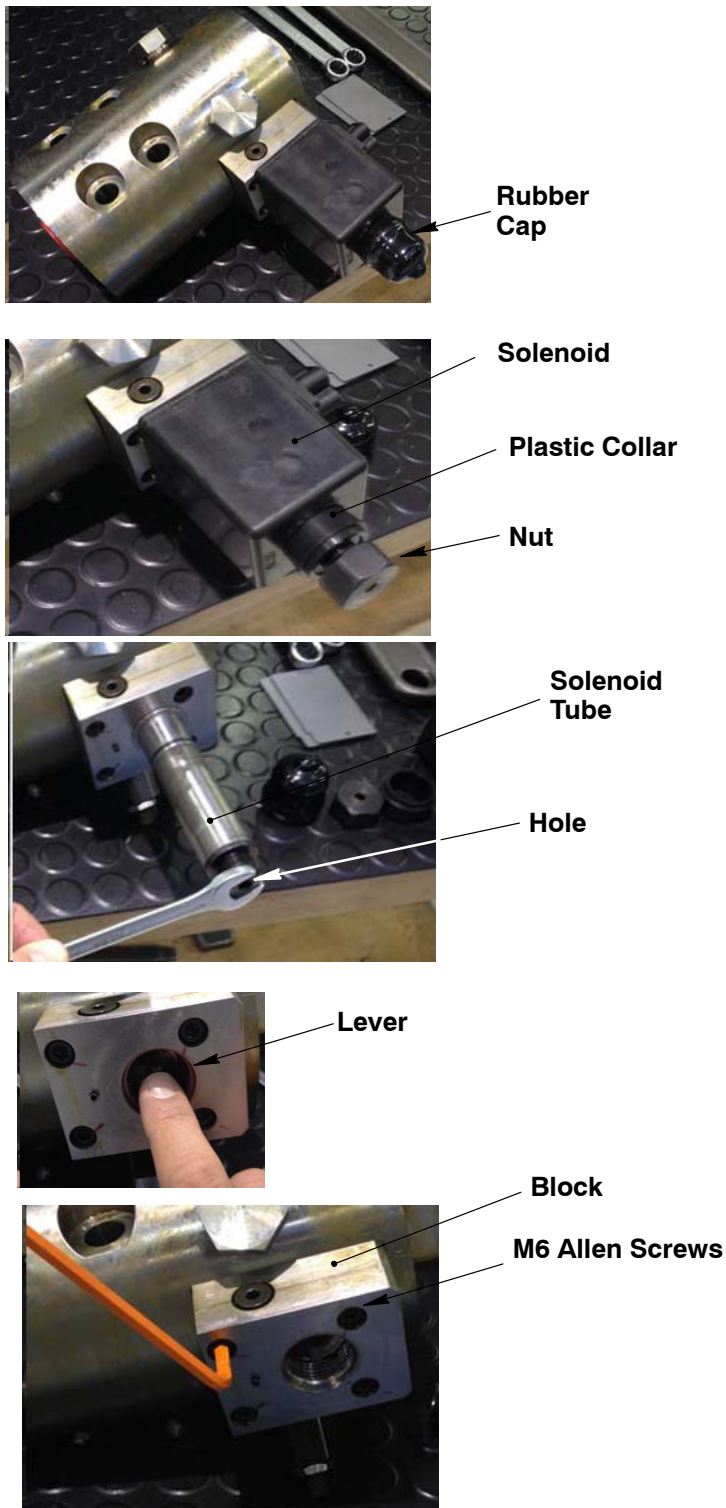

Fig. 2
12) Carefully remove the rubber cap (Fig. 2).
- 3) Put NeverSeez into the hole in the solenoid tube (refer to Fig. 1 and Fig. 2).